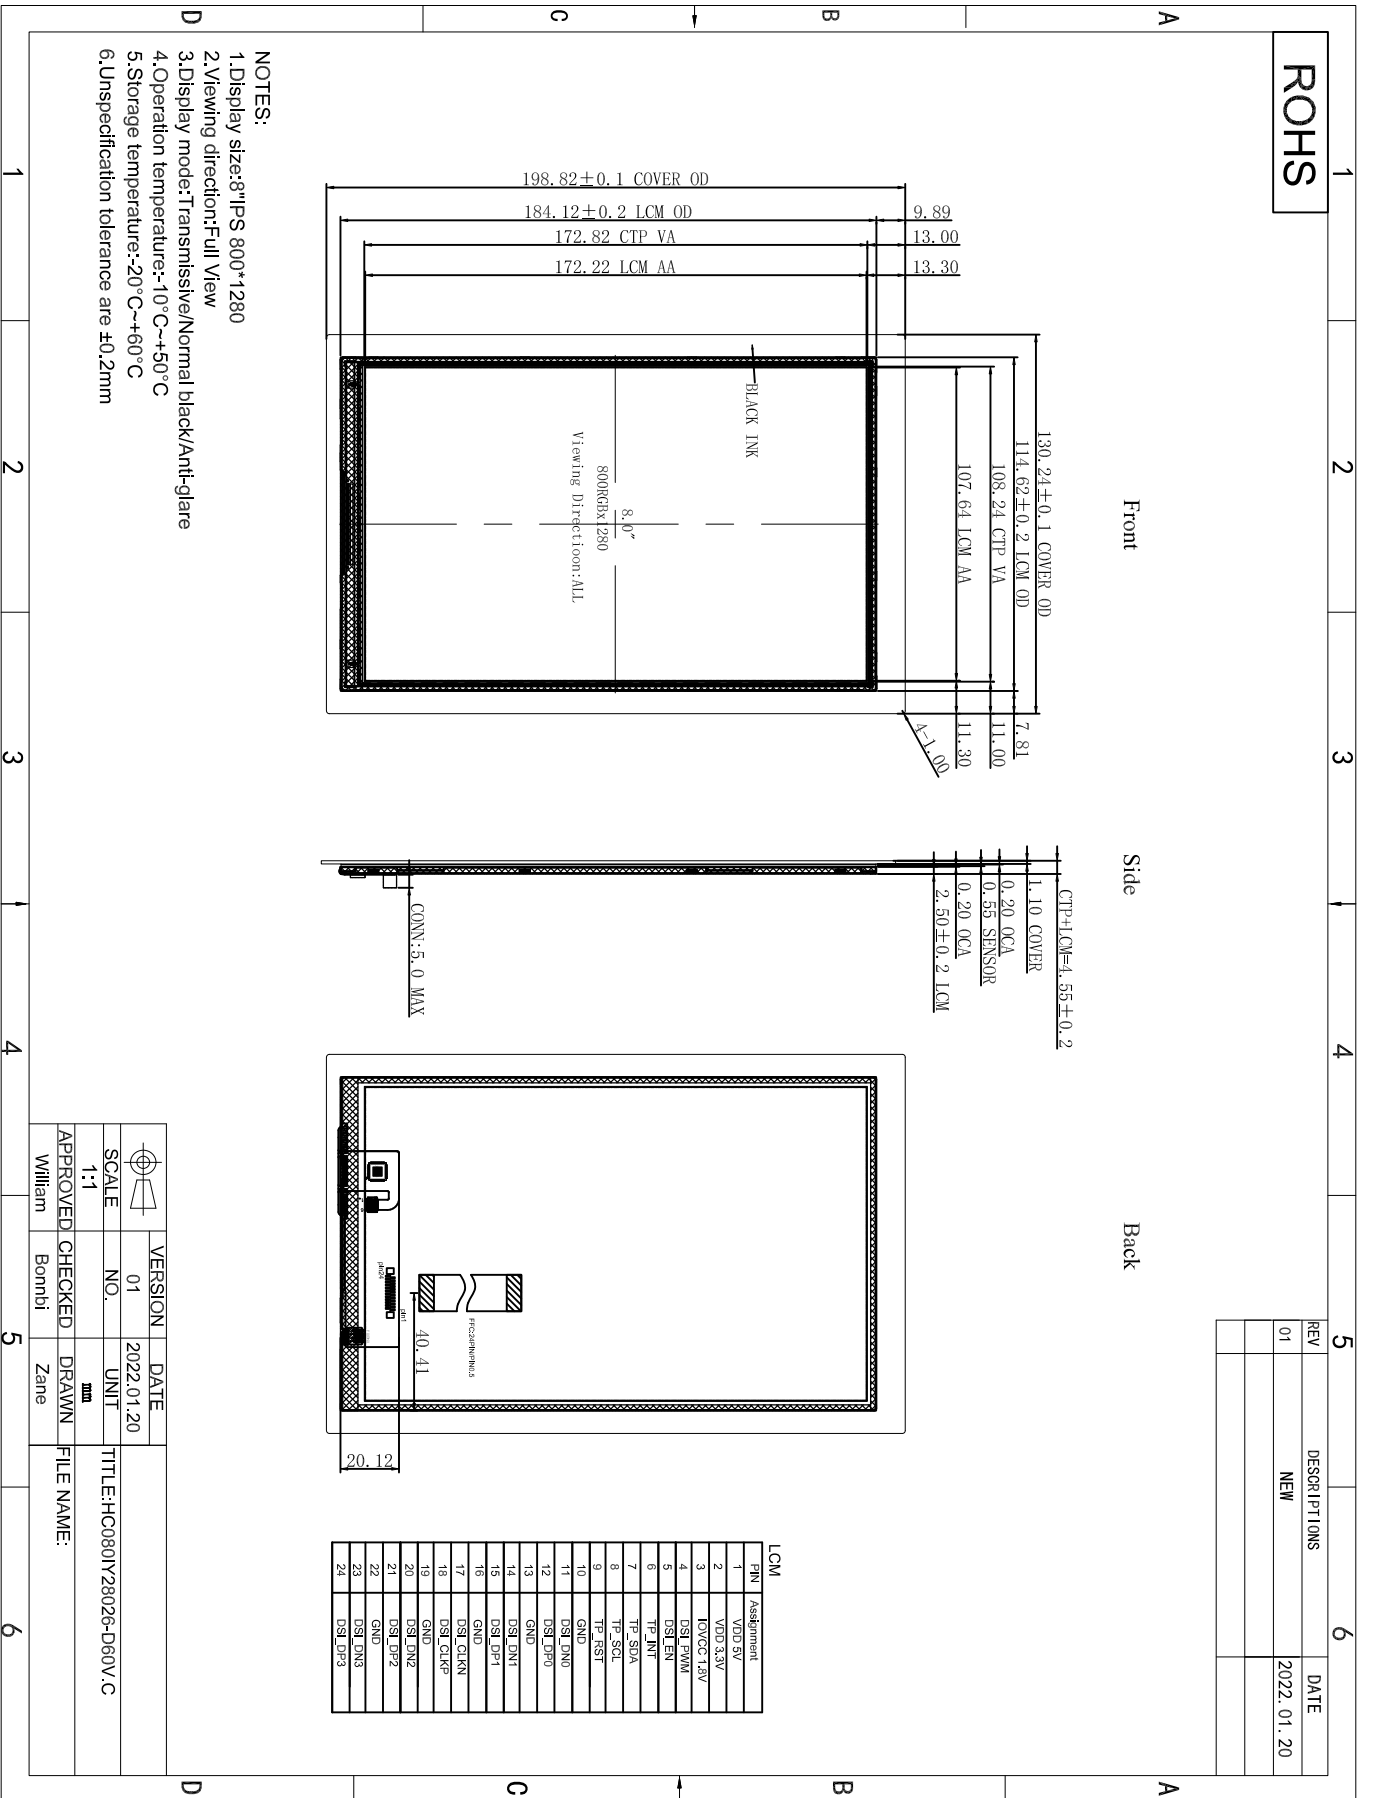

Figure 1. Dimensional outline
1. Viewing angle is the angle at which the contrast ratio is greater than 10. The viewing angles are determined for the horizontal or 3, 9 o'clock direction and the vertical or 6, 12 o'clock direction with respect to the optical axis which is normal to the LCD surface (see FIGURE 1).
2. Contrast measurements shall be made at viewing angle of $\Theta = 0$ and at the center of the LCD surface. Luminance shall be measured with all pixels in the view field set first to white, then to the dark (black) state. (see FIGURE 1) Luminance Contrast Ratio (CR) is defined mathematically.